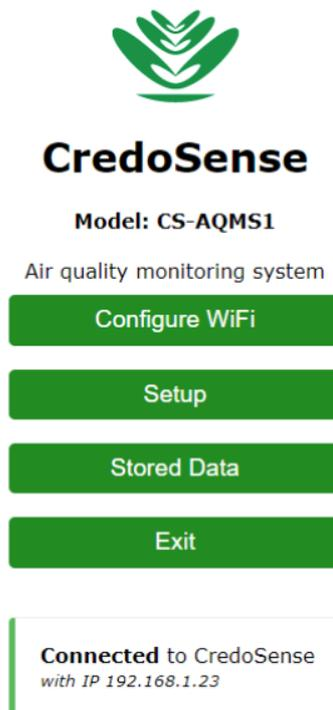

Figure 31: Download data from the configuration panel.
- f) The configuration page should automatically open (Figure 31). If not, open a browser and type 192.168.4.1 in the address bar.